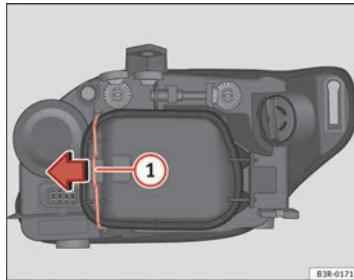

Fig. 214 Side light bulb (inside of vehicle)
- Move the brace ⇒ Fig. 214 ① in the direction of the arrow and remove the rigid cover, separating the brace side and then removing the two tabs from the other end of the cover.